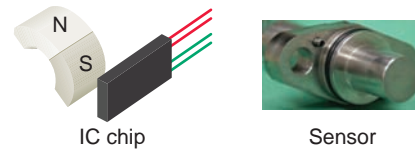

Figure 4-39 Hall effect sensor.
Hall effect sensors are used to detect the proximity and strength of a magnetic field. When a current-carrying conductor is placed into a magnetic field, a voltage will be generated perpendicular to both the current and the field. This principle is known as the Hall effect. A Hall effect sensor switch is constructed from a small integrated circuit (IC) chip like that shown in Figure 4-39. A permanent magnet or electromagnet is used to trigger the sensor on and off. The sensor is off with no magnetic field and triggered on in the presence of a magnetic field. Hall effect sensors are designed in a variety of body styles. Selection of a sensor based on body style will vary by application.